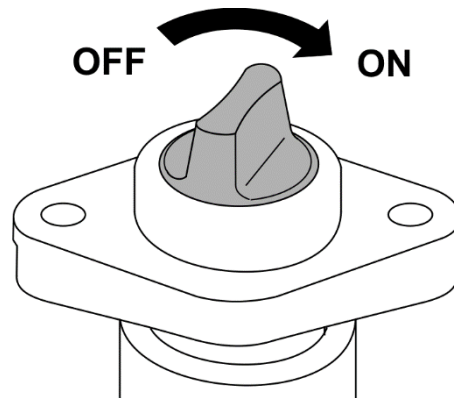

FIG. 4.28 Main switch of control panel
To switch on power supply, turn main switch (FIG. 4.28) clockwise to (ON) position - switched on.